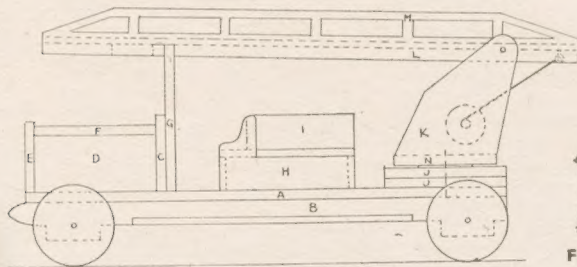
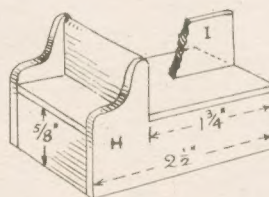

Fig. 1—Side view with lettered parts
Fig. 5—Seating arrangement
The side view, Fig. 1, helps to show the position of the main parts of the toy. The floor (A) will be the first piece to mark out and cut with the fretsaw. This measures 9in. by $2\frac{1}{2}$ in. and is $\frac{3}{16}$ in. thick. Then to the side edges of this piece, the two parts (B) are glued and pinned.
The seats for the firemen can again be completed from the diagram, Fig. 5, wood $\frac{1}{8}$ in. thick being used here for all the parts. Note how the side edges of the top seat will be cut back to allow the sides (H) to fit under; this can be seen in Fig. 1. The width of the seat end (H) is
1½ in., while its length is 2½ in., as seen in Fig. 5.